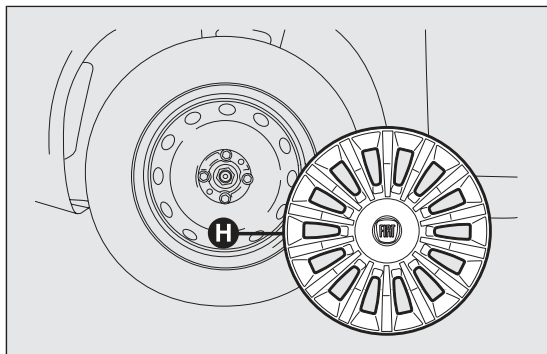

fig. I43
- ❑ remove hub cap H fig. I43 (versions with steel rims) or remove the hub cap (versions with alloy rims);